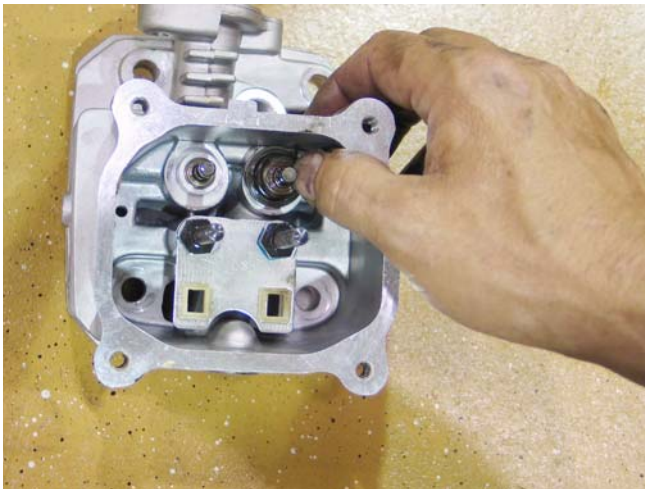

Figure 12.14
12.14. Only the intake valve has a valve guide seal. See Figure 12.14.